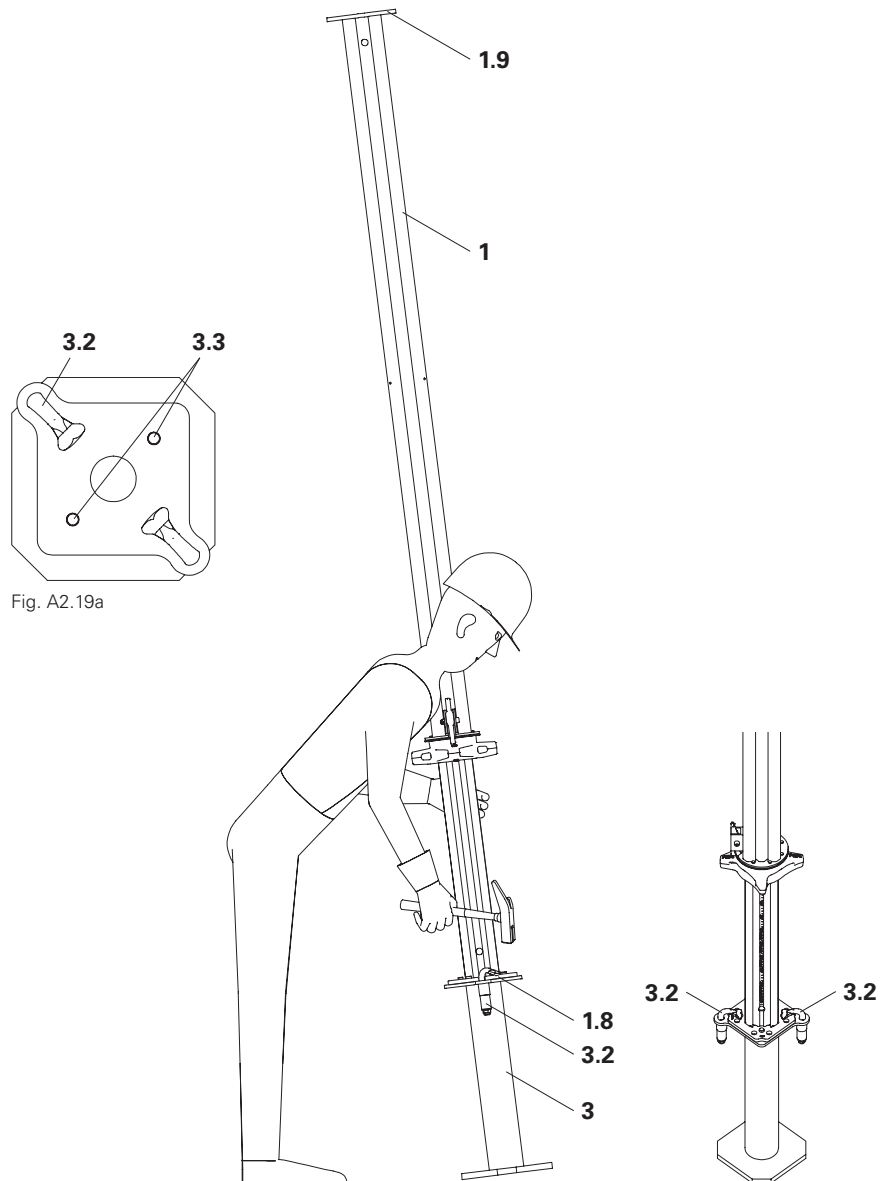

Fig. A2.19
3. Hit clamping claws (3.2) with a hammer over the base plate or head plate of the MULTIPROP MP (1). (Fig. A2.19)
- Base MP 50 (3) is connected to MULTIPROP MP (1).